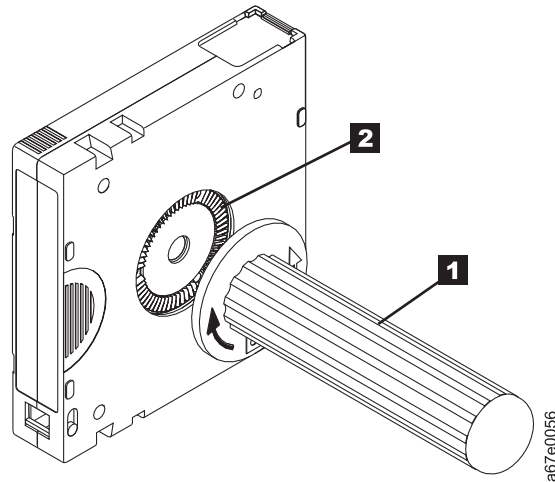

Figure 20. Rewinding the tape into the cartridge
5. To rewind the tape, insert the cartridge manual rewind tool ( **1** in Figure 20 on page 49) into the cartridge's hub ( **2** ) and turn it clockwise until the tape becomes taut.